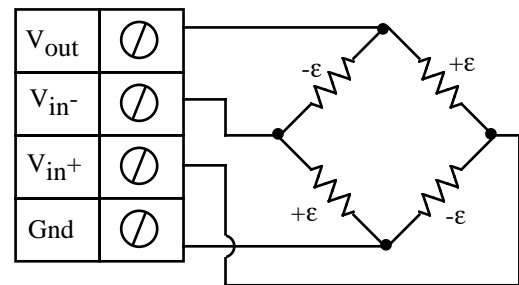

Fig 3.2b- Bridge Ratio Voltage Measurement
6. Wire your voltage source per figure 3.2b, and refer to the steps at the beginning of this chapter for more information on how to set up your sensor.^{5,10}